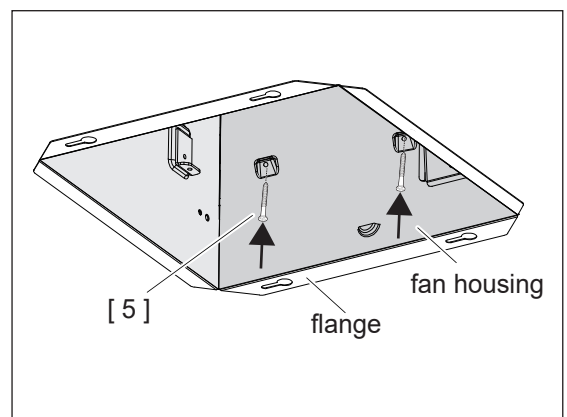

Fig 26
11. Place fan housing in opening so that its bottom edge is flush with finished ceiling. Attach to joist through holes with two Long Screws [ 5 ] as figure shows. (Fig 26)